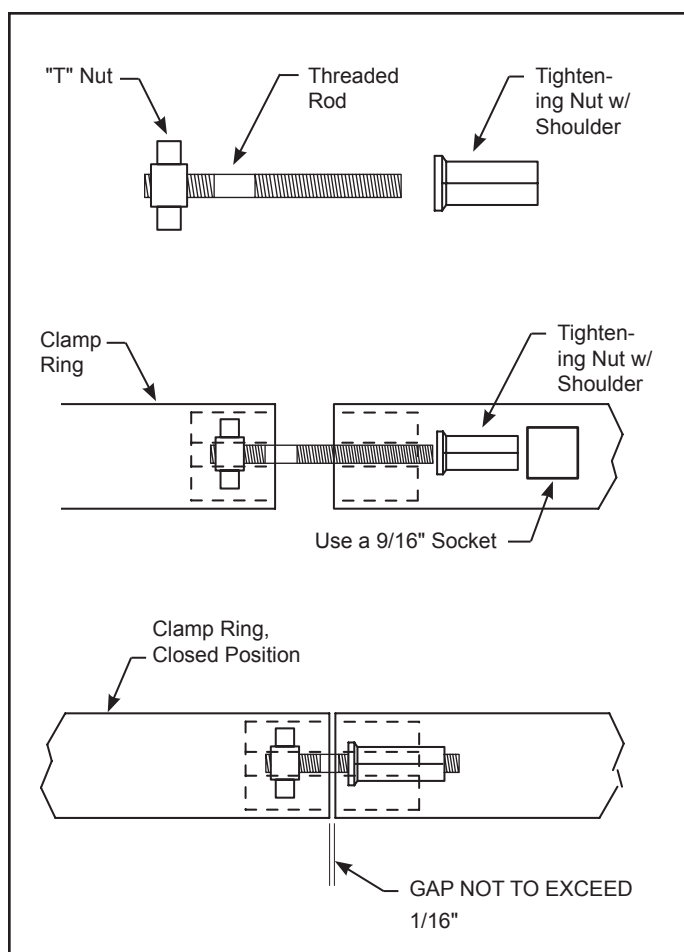

Figure 7. Filter Clamp Ring Assembly
4. Use a 9/16" socket on the tightening nut until the clamp ring halves touch each other, or are within 1/16", see Fig. 7 **but do not overtighten as the clamp can break.** If unable to tighten as indicated, do not operate the filter and **call a service technician immediately.**